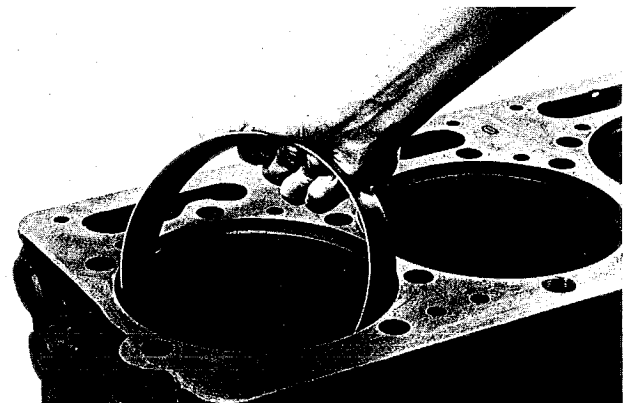

Fig. 7 Pushing bushing into bore
2. Push bushing through upper bore Fig. 7. Place bushing on top of bore you have just made with I.D. chamfer in bushing facing up.